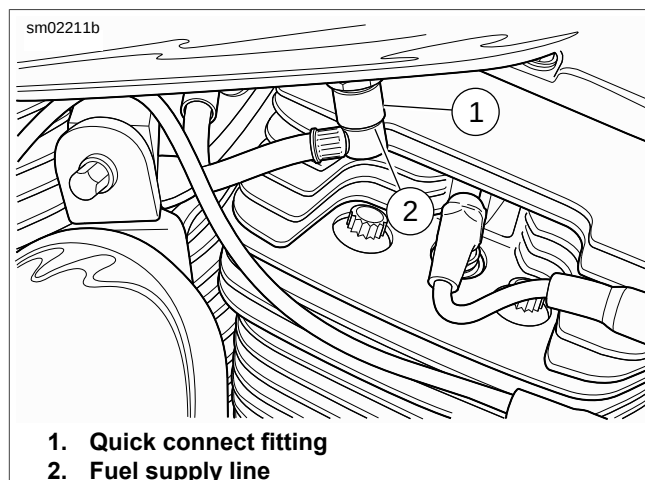

Figure 4-5. Fuel Supply Line Fitting
See Figure 4-5. Pull up on chrome sleeve of quick-connect fitting (1) and pull down on fuel supply line (2) to disconnect.